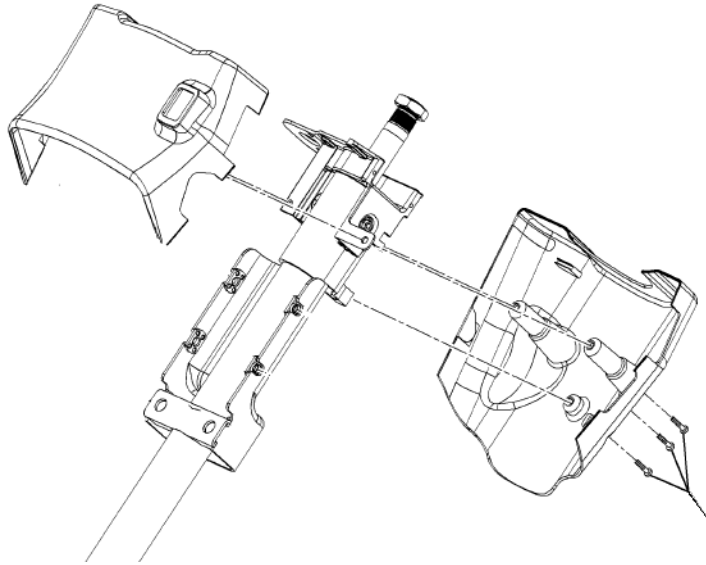

Figure 1
9. Re-install upper and lower steering column trim panels. See **Figure 1**.